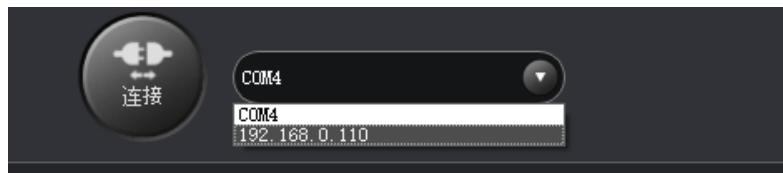

Figure 5.164 IP address of Dobot Magician
**Step 8** After 2 seconds later, select the IP address from the drop-down list on the upper left pane of the DobotStudio page and click **Connect**, as shown in Figure 5.164.